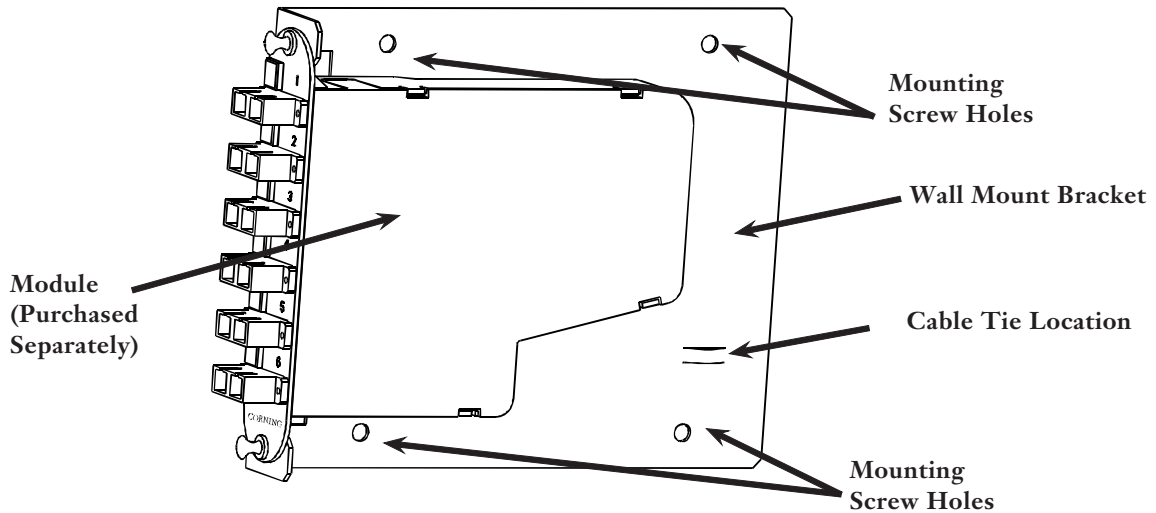

Figure 1
4.3 Use a cable tie in the location shown in Figure 1 to secure the feeder cable to the bracket.